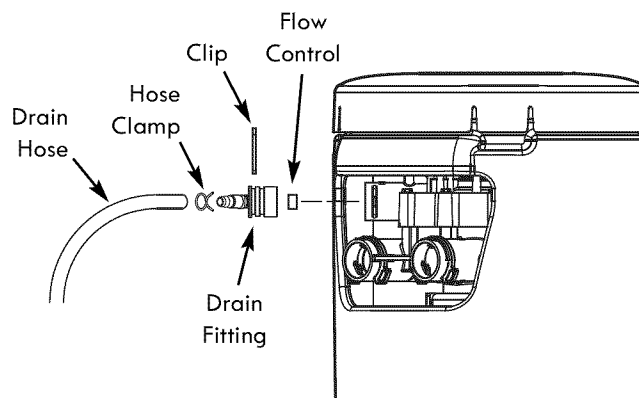

Figure 23
1. Remove the clip holding the drain fitting into the valve (See Figure 23).